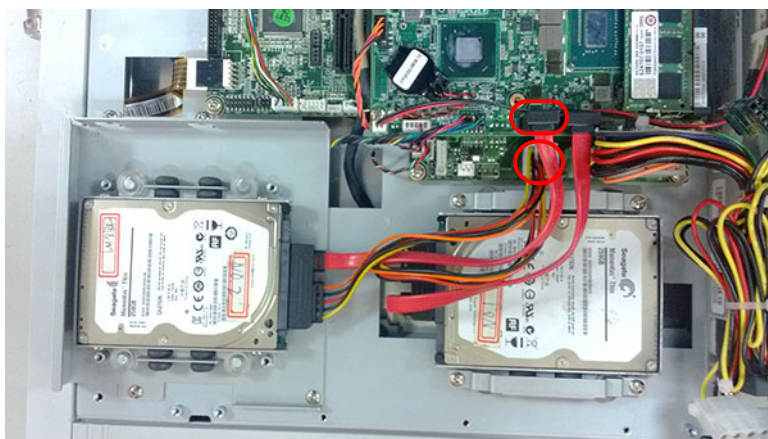

Figure 2.23
6. Connect the HDD cable. (See Fig 2.23)